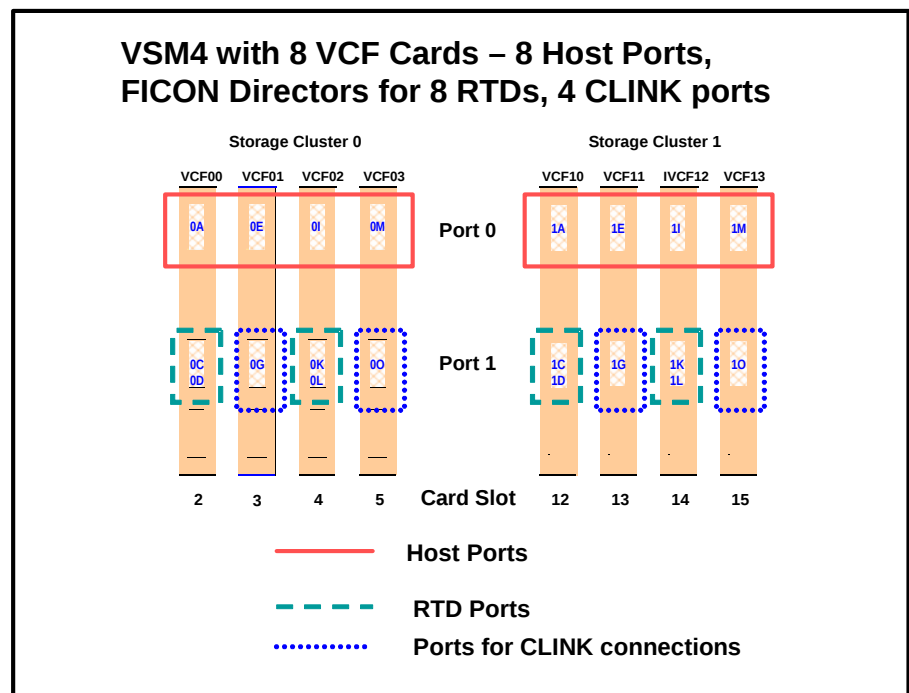
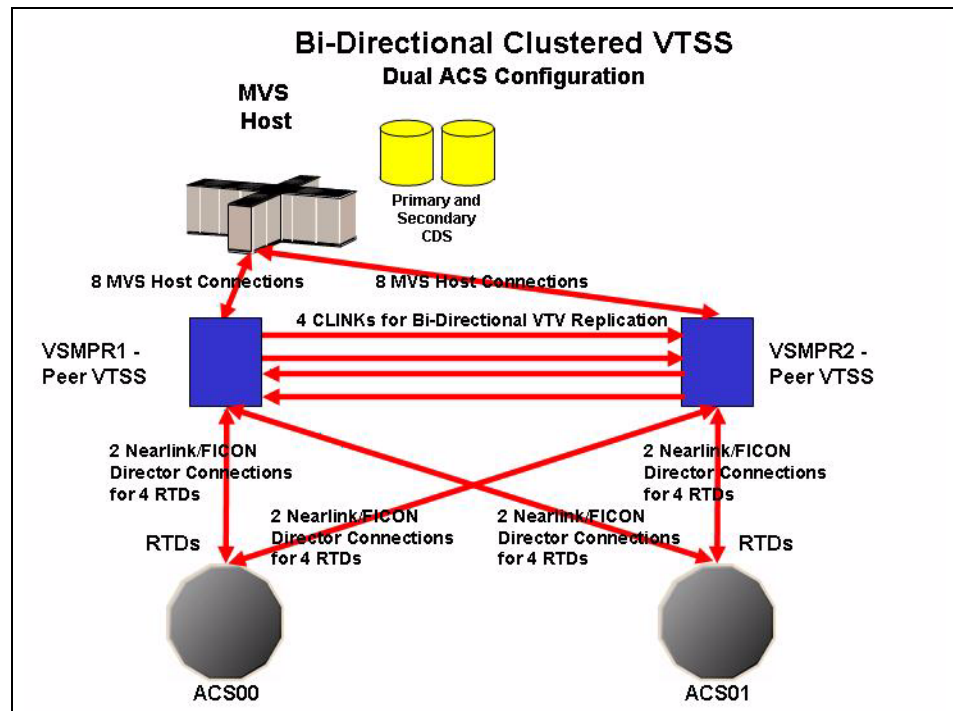

Figure 14. VSM4 with 8 VCF Cards, 8 Host Ports, FICON Directors for 8 RTDs, 4 CLINK Ports
Figure 15. Dual ACS Bi-Directional Clustered VTSS Configuration
Figure 14 shows CONFIG channel interface identifiers for a VSM4 with 8 VCF cards. In this configuration, we've allocated:
- 4 ports for CLINK connections to form a Bi-Directional VTSS Cluster, and 8 ports to host connections. To form the clustered VTSS, we'll have two VSM4s (`VSMMPR1` and `VSMMPR2`) configured identically as shown in Figure 14. As shown in Figure 6 on page 63, Bi-Directional Clustering requires pairs of Uni-Directional CLINKs with the FIPs configured so that the data flows in **opposite directions** on the CLINKs. To make that happen, let's make 0G and 1G the sending (Nearlink Mode) ports on both VTSSs and 0O and 1O the receiving (Host Mode) ports on both VTSSs.
Figure 15 shows an example of a Bi-Directional Clustered VTSS Dual ACS system using the port configuration shown in Figure 14 on page 71.
Figure 15 shows example CONFIG JCL to define a Bi-Directional Cluster of two VSM4s (VSMR1 and VSMR2) with identical VCF card configurations shown in Figure 14 on page 71.
To configure and manage the Bi-Directional Clustered system shown in Figure 15, do the following:
Figure 16 shows example CONFIG JCL to define a Bi-Directional Cluster of two VSM4s (VSMPR1 and VSMPR2) as shown in Figure 15 on page 72. **Note that:**